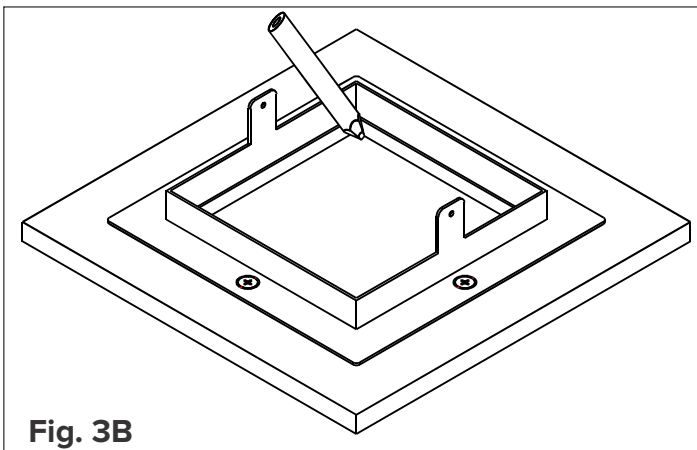

Fig. 3B
Step 3: Secure the guiding collar onto the millwork ceiling, **Fig. 3A**, and use the inside of the guiding collar as a template, **Fig. 3B**, to cut a precise hole in the millwork ceiling, see **Table 1.**